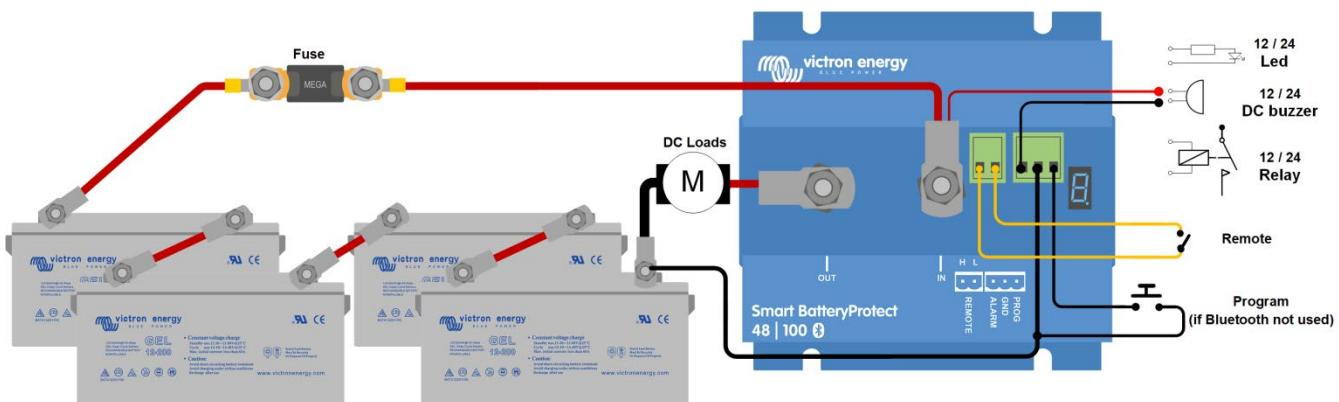

Figure 1 Connection diagram of the SBP 48|100
- A remote on-off switch can be connected between Remote H and Remote L (see figure 1). Alternatively, terminal H can be switched to battery plus, or terminal L can be switched to battery minus.
- A buzzer, LED or relay can be connected between the alarm output and the battery plus (see figure 1). Maximum load on the alarm output: 50 mA (short circuit proof).